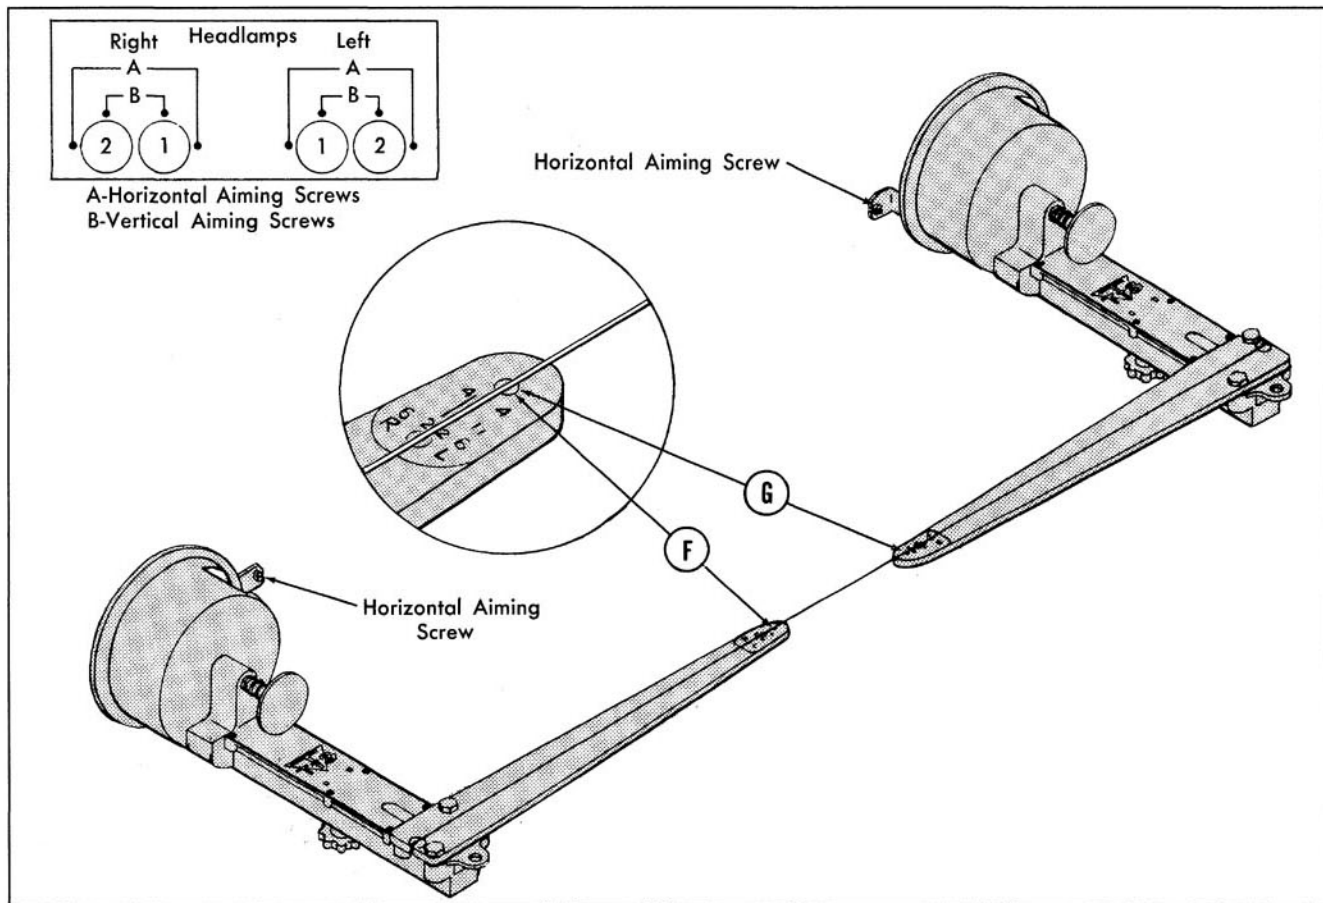

Fig. 13-92 Horizontal Aim
4. Fasten string to RH aimer. Rotate aimers until string just clears "F" and "G". (Fig. 13-92)